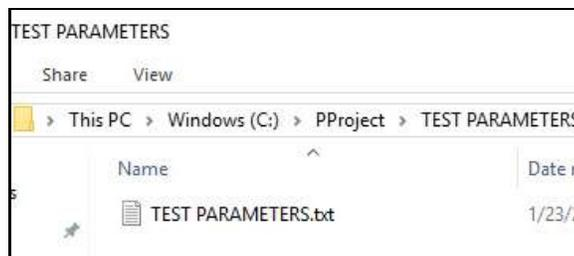

FIGURE 3-5. TEST PARAMETERS FILE LOCATION
1. In Windows Explorer on your DAAS machine, open the C drive > PProject > TEST PARAMETERS (see Figure 3-5).